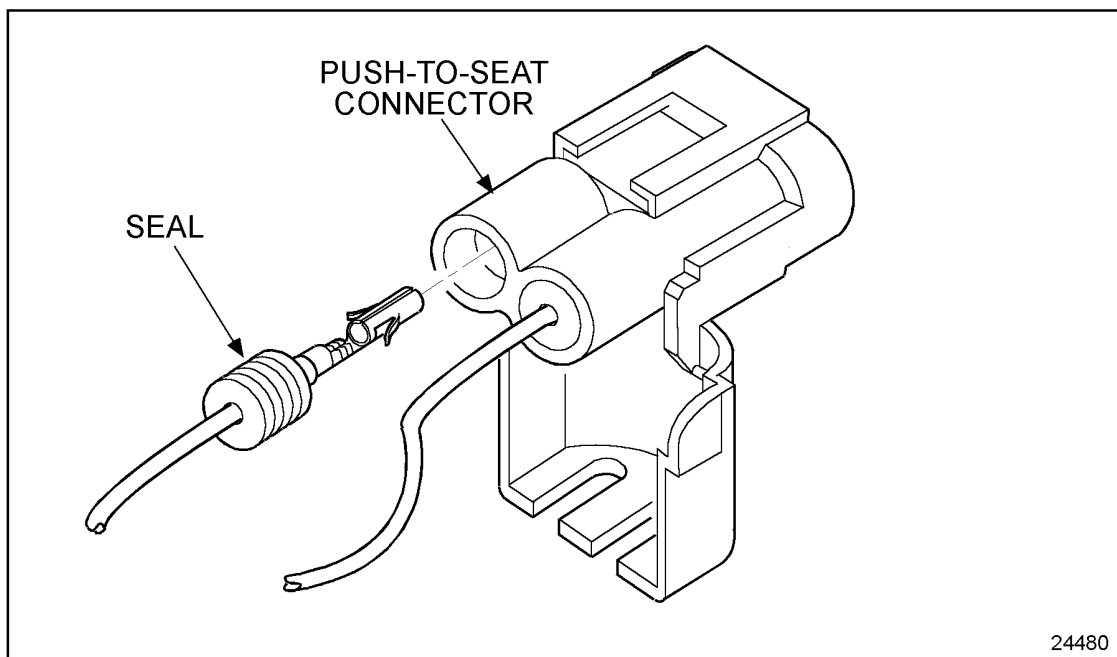

Figure 8-29 **Inserting Terminal in Connector**
8. Push the crimped terminal into the connector until it clicks into place. Gently tug on the cable to make sure it is secure. See Figure 8-29.